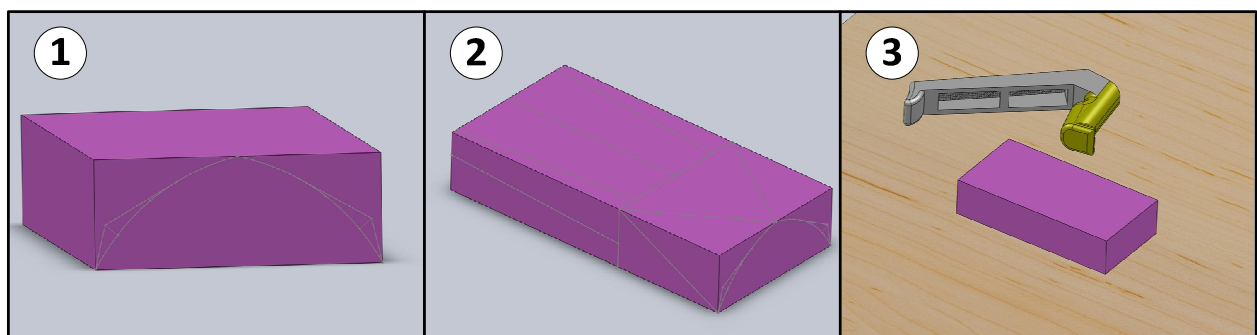
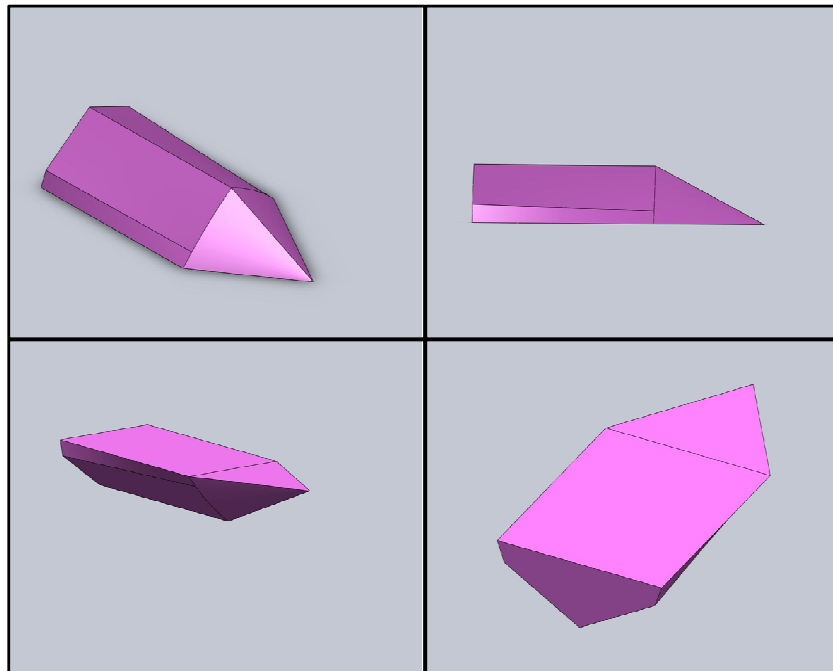

Figure 2: Layout and cut a block- (1) Use a combination square to mark out the lines. (2) Finished layout of the block. (3) Cut the block out using a hacksaw.
Figure 3: Finished hull plug.
- B. Once a consensus on a hull design is reached, sketch out the design of the boat on the 4" x 8" styrofoam block. An example of a boat hull sketch is shown in Figure 2(1-2).
Note: When the sketch in Figure 2 is shaped with a **Surform**, it will look like Figure 3.